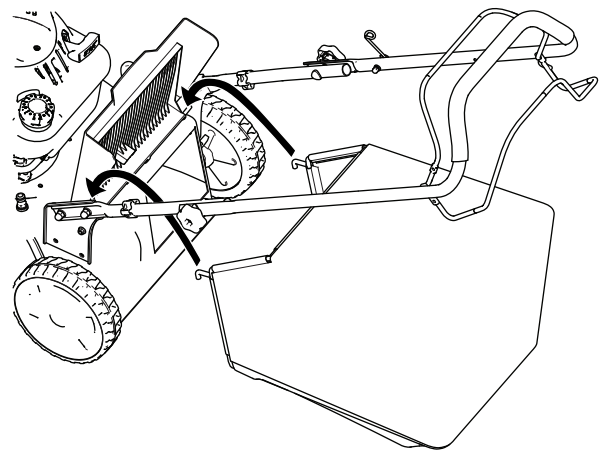

Figure 17
2. Raise and hold up the rear door (Figure 17).
3. Install the grass bag, ensuring that the pins on the bag rest in the notches on the handle (Figure 17).
1. Raise and hold up the rear door (Figure 17).